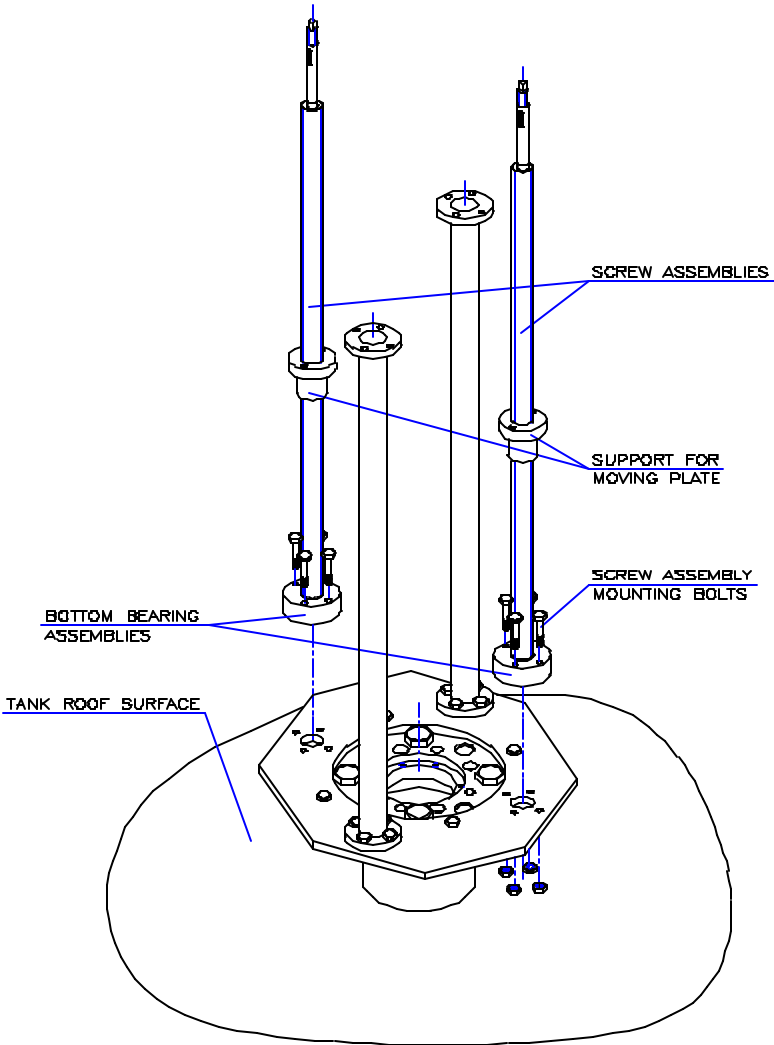

Figure 5
1. Place the end of the first **Screw Assembly** over one of the group of holes WITH the central hole (*see Figure 5*).